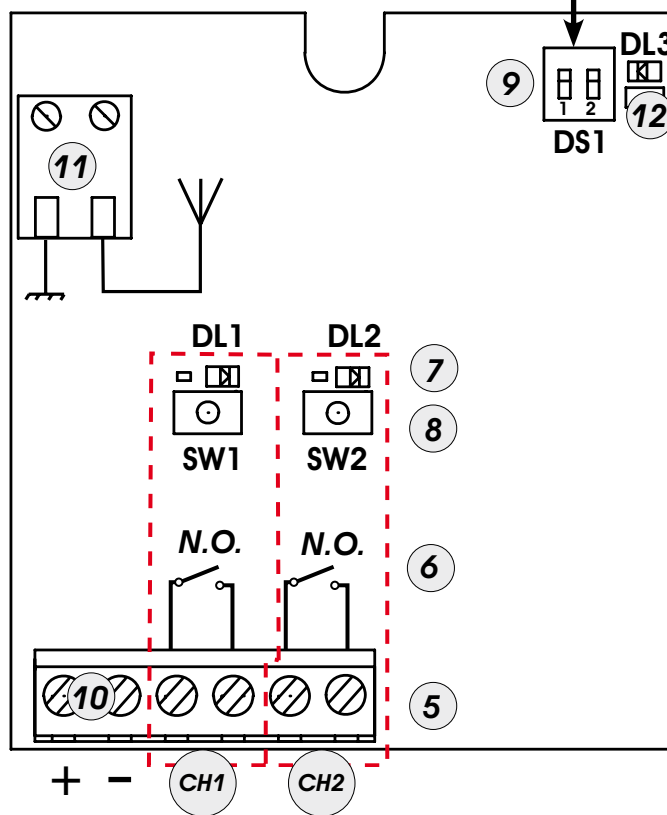

Fig.1
- 2) Press for 1 second the push-button on the receiver (Fig. 1 ref. ⑧) relating to the channel you wish to associate with the radio control.
- 3) The relevant LED on the receiver (Fig. 1 ref. ⑦) begins to flash slowly for 5 secs.
- 5) The relevant LED (Fig. 1 ref. ⑦) lights up on steady beam for 1 second and then goes OFF, indicating that storage was executed.
- 4) Press, for 1 second, the push-button on the receiver (Fig. 1 ref. ⑧) relating to the channel you wish to associate with the radio control.
- 5) The relevant LED on the receiver (Fig. 1 ref. ⑦) begins to flash slowly for 5 secs.
- 7) The LED on the board (Fig. 1 ref. ⑦) lights up on steady beam for 1 second and then goes OFF, indicating that storage was executed.
- 1) Press, for 1 second, the push-button on the receiver (Fig. 1 ref. ⑧) relating to the channel you wish to associate with the radio control.
- 2) The relevant LED on the receiver (Fig. 1 ref. ⑦) begins to flash slowly for 5 secs.